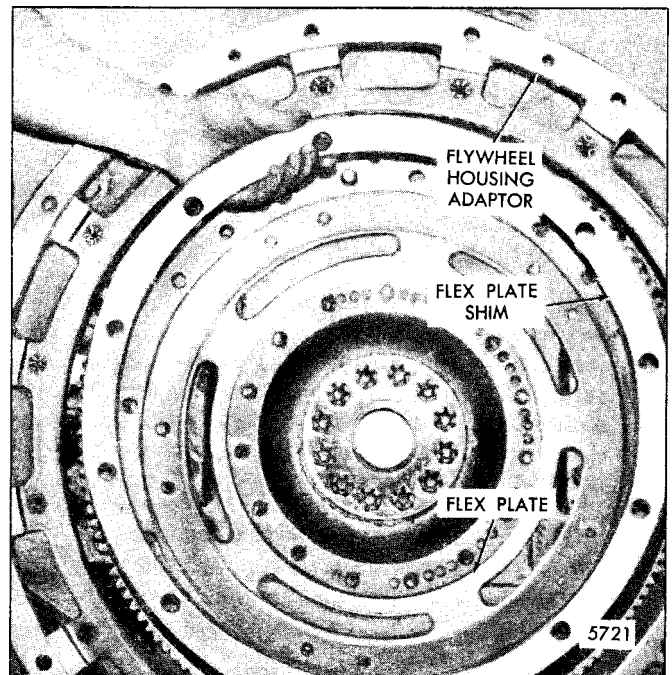

Fig. 7 - Installing Engine Flex Coupling Shim
6. If the engine measurement "B" is greater than the generator measurement "A", shim between the generator adaptor face and the engine flexible coupling plate face by the difference between these dimensions, with an allowable .002" tolerance (Fig. 7). See Table 1 for required shims.